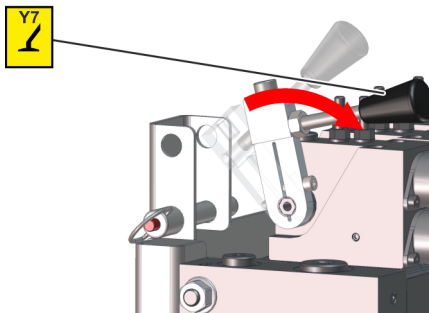

Fig. 193: Valve Y7 outrigger operation
5. ➔ Push the valve (Fig. 193/Y7) down and hold it.